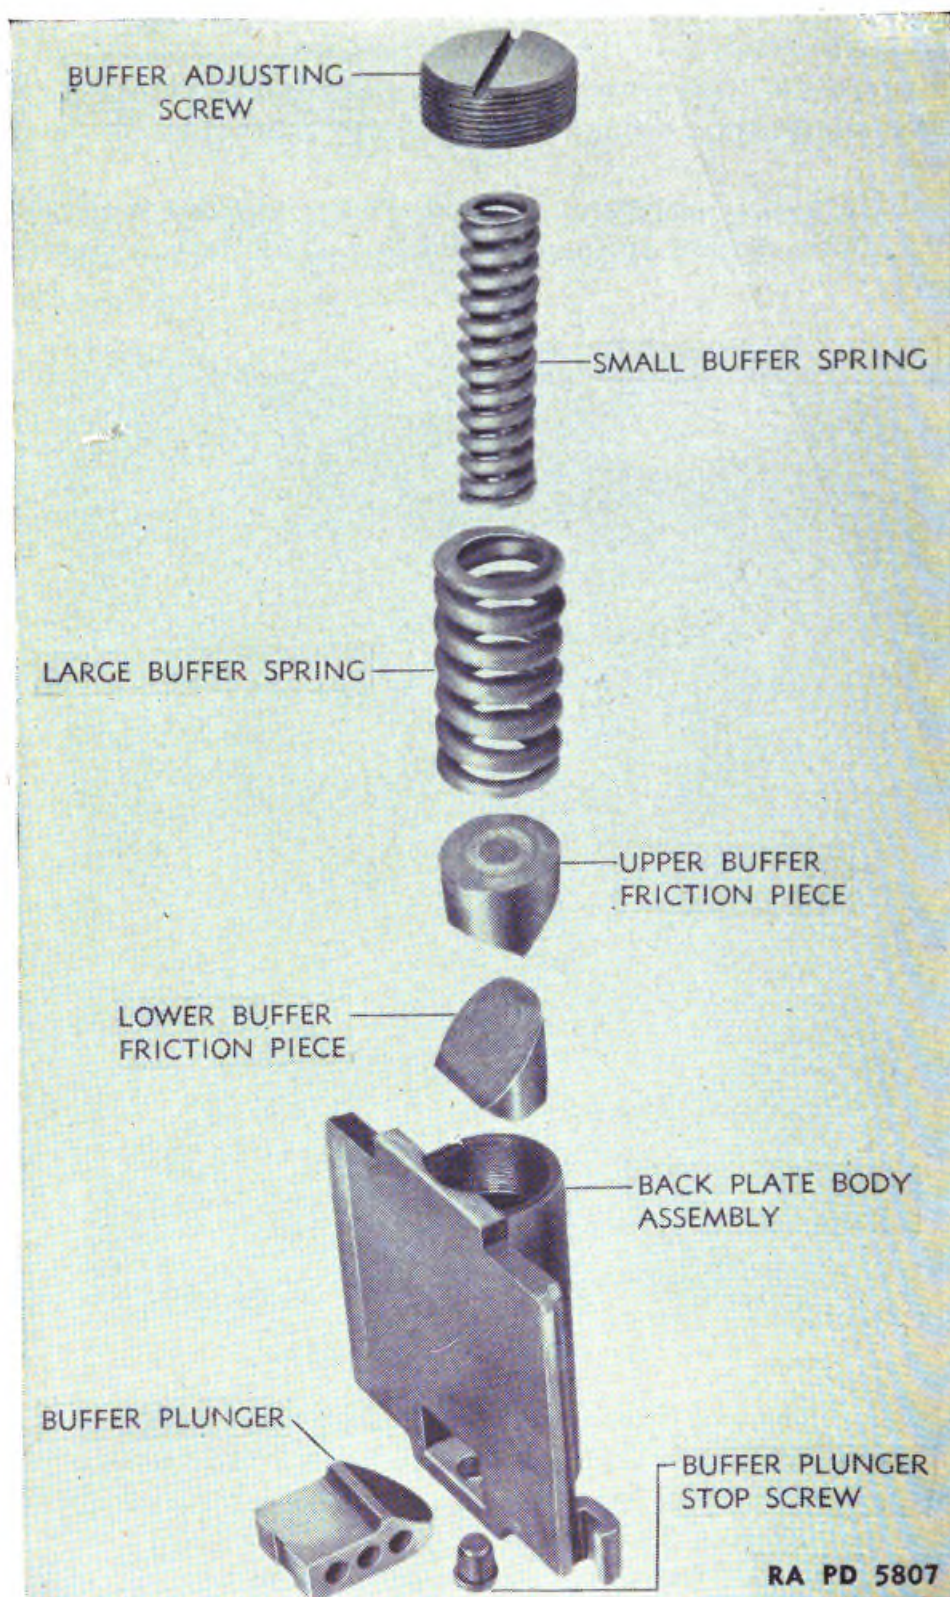

FIGURE 56.—Disassembly of back plate assembly.
*b. Disassembly* (fig. 56).—(1) Remove buffer adjusting screw.
(2) The buffer springs and buffer pieces are now free to be shaken out of the back plate body assembly.